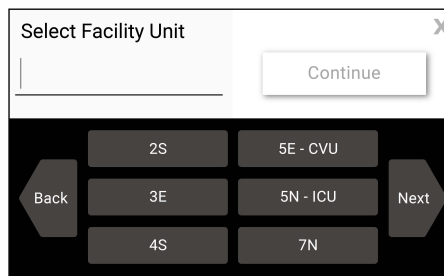

Figure 3. Hospital unit selection screen
3. Select the Facility unit and press continue. (Fig. 3)